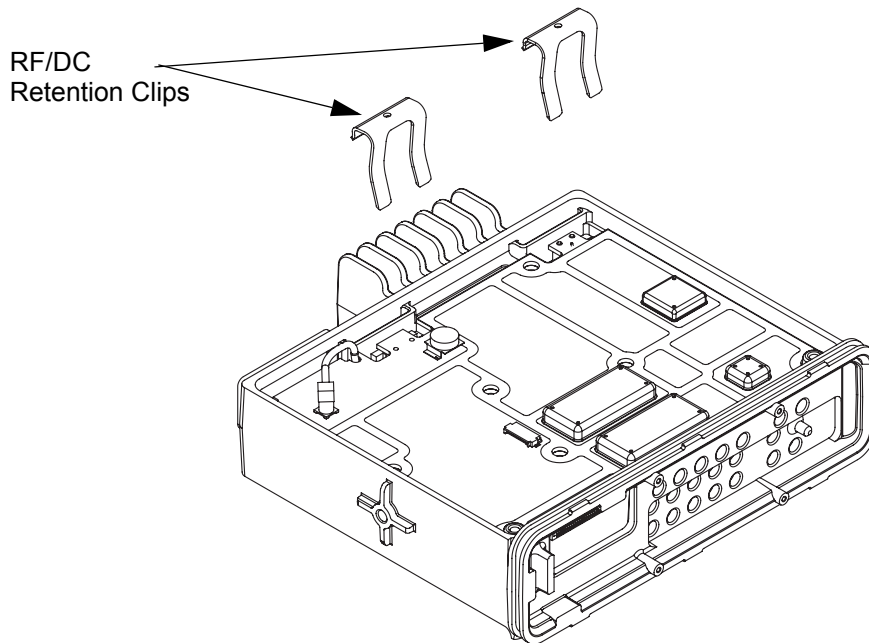

Figure 5-51 Inserting RF/DC Retention Clips
2. Insert the RF/DC retention clips and fully seat them. The DC clip should be inserted first to properly locate the transceiver board. Refer to Figure 5-51.